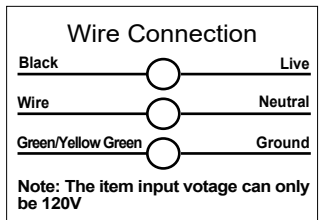

Figure 3
2. When wiring the product, please ensure that you follow the local connection standards and take the necessary protective measures to create a secure joint. (Figure 3)